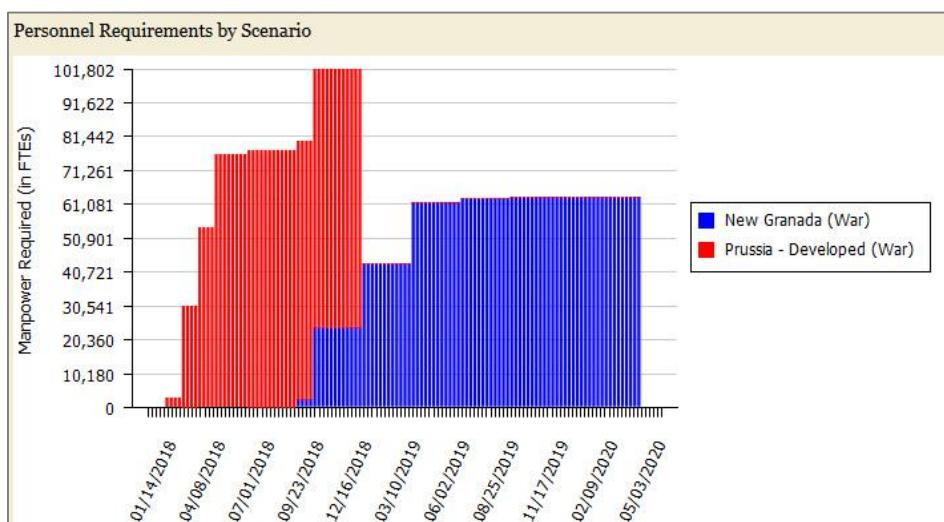

Figure 2. 16 weeks overlap analysis: Personnel Requirements by Scenario.
This analysis will use the same parameters as the baseline analysis, except that Prussia and New Granada overlap by 16 weeks (August-November 2018). This will cause a competition for resources (Figure 2).
11. Personnel Requirements by Scenario graph should look like Figure 2. It can take a while to load.